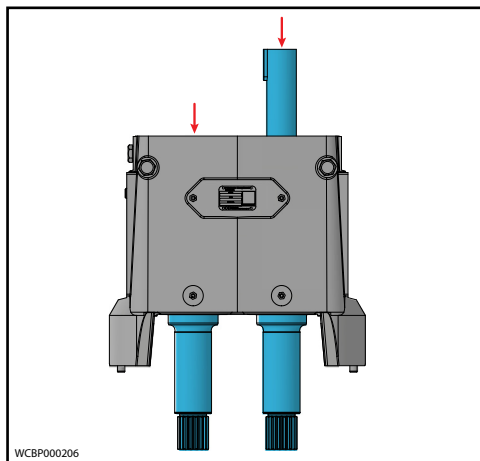

Figure 75 - Install Shaft assembly
1. With the shims in place, install the shaft assembly in the front bearing bore with the spline end facing up, as shown in Figure 75. Ensure that the shaft is installed in its original location.